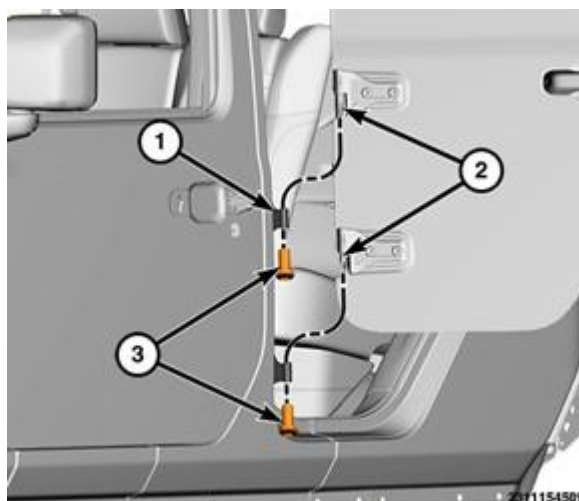

Figure 16 – Hinge Pin Nuts
23. Remove the nuts (3) and lift the door up off hinges (1) and remove (Figure 16).
66. Set the door into place on the hinges and install the door hinge pivot nuts. Tighten the nuts to 6N·m (53 in. lbs.) (Figure 16).